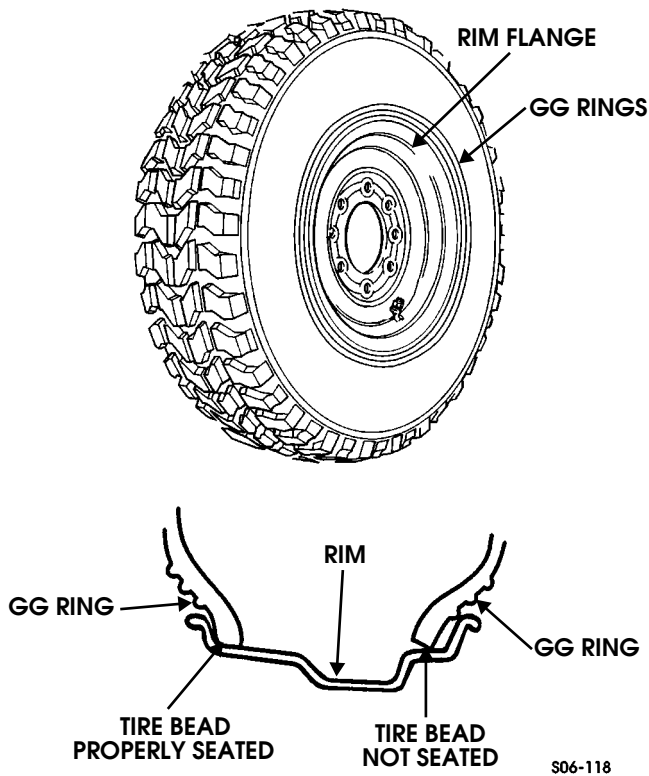

Figure 6-39: Checking Tire Bead Seating
9. Be sure that the tire is properly mounted and seated on the wheel. Check the distance between the GG rings on the tire and the wheel flange. The distance between the GG rings and the wheel flange should be the same (concentric) all the way around the tire (Figure 6-39).